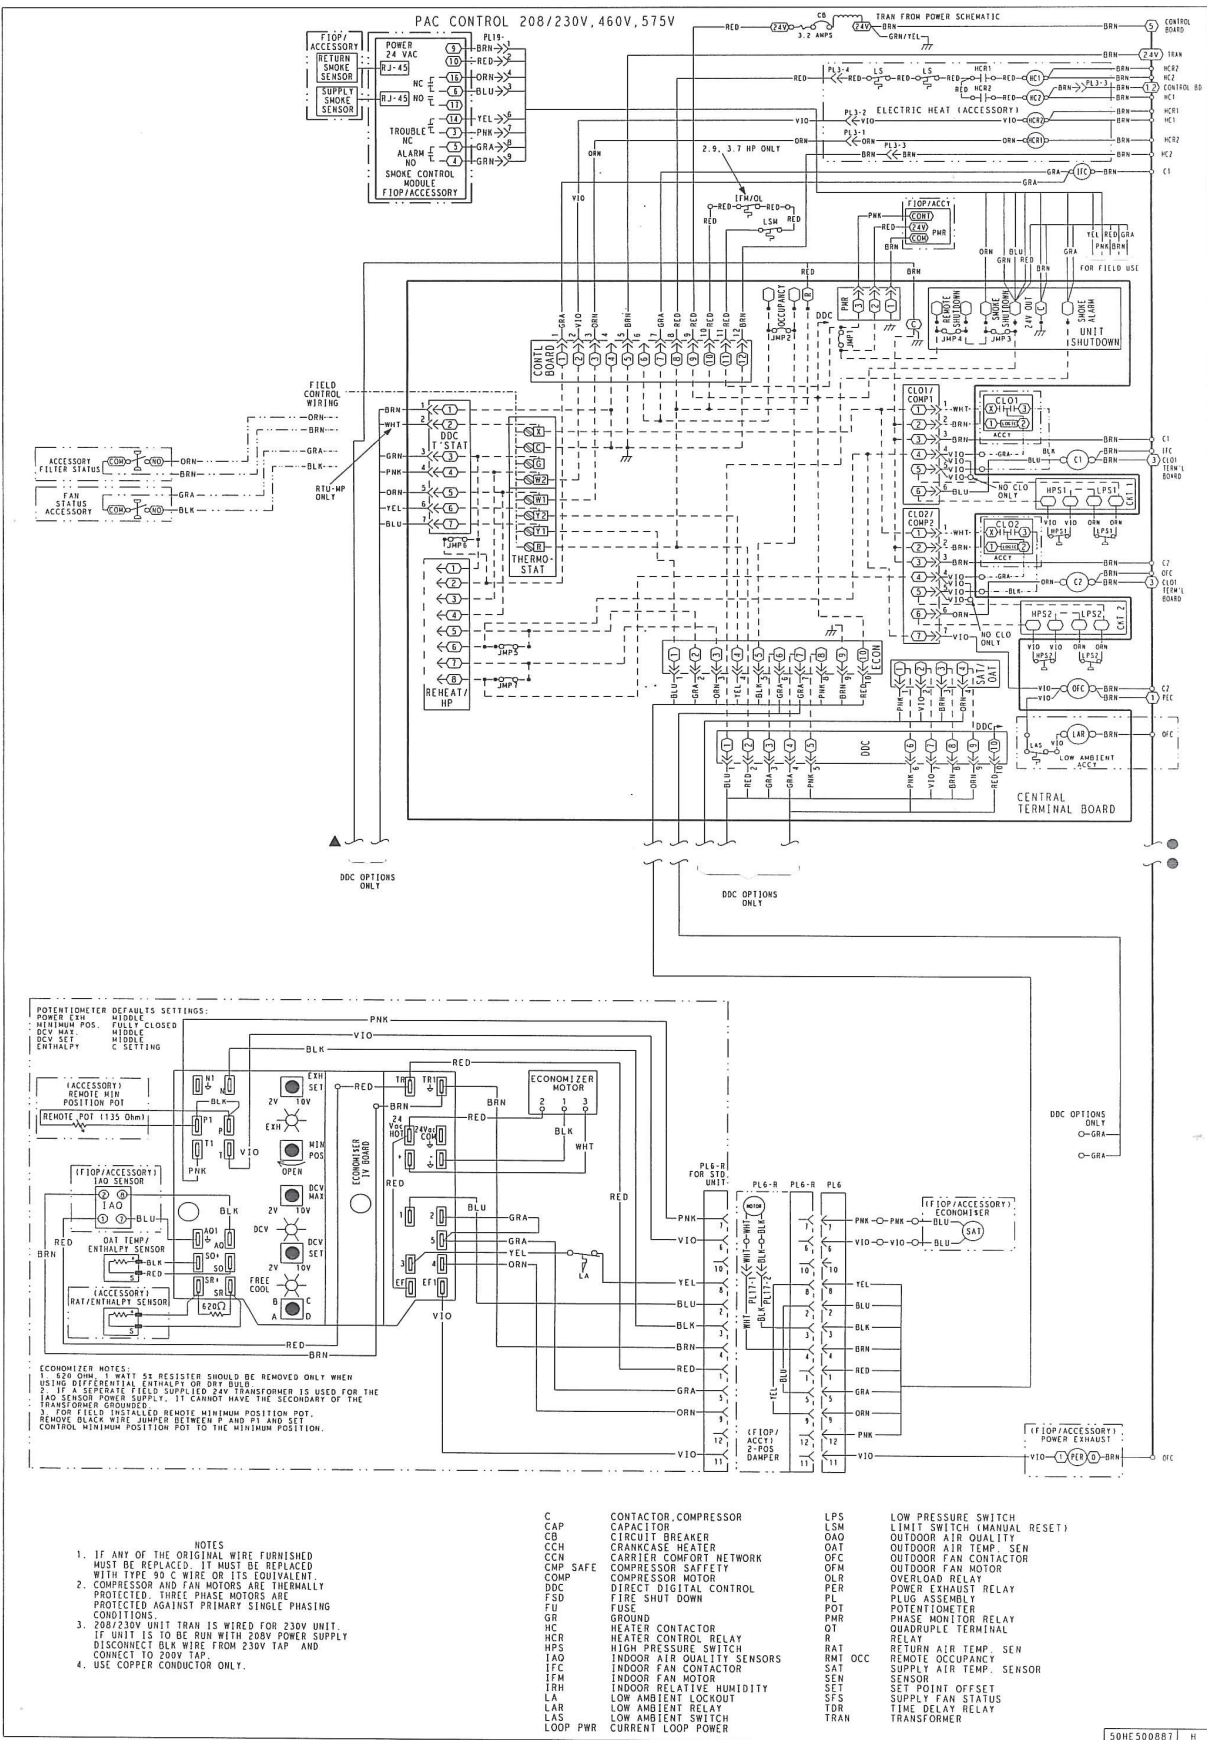

Fig. 2 - Wiring Diagram
6. Route wires for the switch from low voltage section to status switch. Connect the gray wire to the “COM” side of the switch. Connect the black wire to the “NO.” (See Fig. 2.) The other end can be tied into building controls for monitoring.
4. Locate wires (orange and brown). Route wires from low voltage section to switch. Connect brown to "COM" and the orange to "NO." The other end can be tied into building controls for monitoring. (See Fig. 2.)